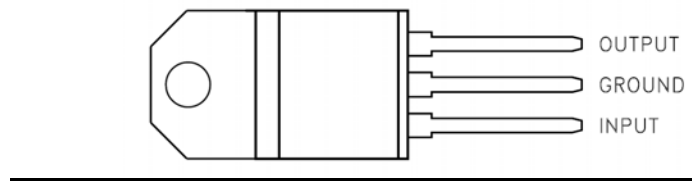

Figure 2 - PICkit 1 Starter Kit Power Indication Circuit
- g.** Construct the circuit shown in Figure 2. This will be a visual aid in determining if voltage is present (when the LED is turned on).